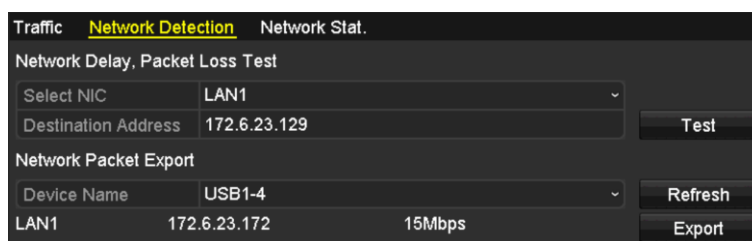

Figure 9. 30 Network Detection Interface
2. Click the **Network Detection** tab to enter the Network Detection menu, as shown in Figure 9. 30.